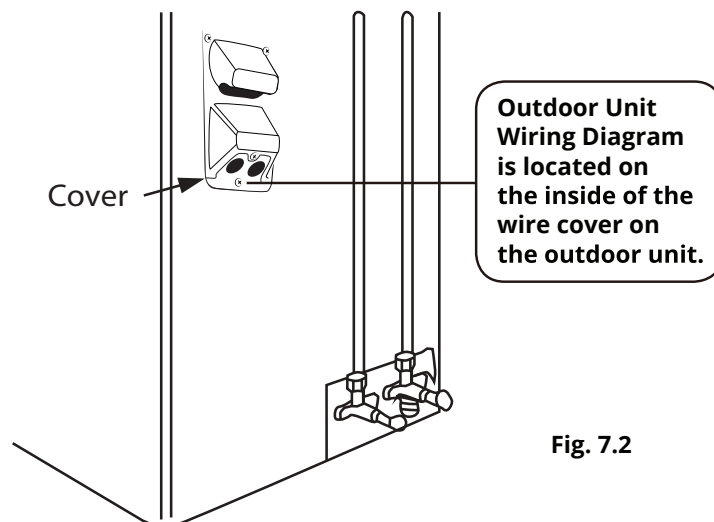

Fig. 7.2
**ALL WIRING MUST BE PERFORMED STRICTLY IN ACCORDANCE WITH THE WIRING DIAGRAM LOCATED AS SHOWN IN FIG 7.2.**